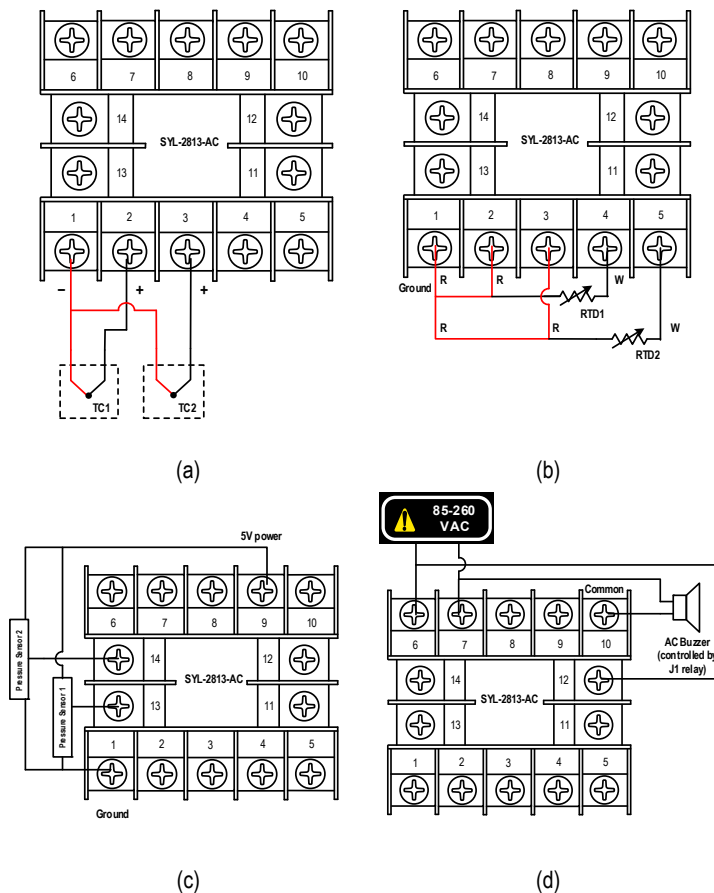

Figure 4. Wiring diagram for (a) thermocouples, (b) RTDs, (c) pressure sensors, and (d) relays.
- 3). Wiring of Thermocouples (TC). For Channel 1, connect the positive side of the TC to T2, the negative side to T1. For Channel 2, connect the positive side of the TC to T3, the negative side to T1. (See Figure 4(a).)
- 4). Wiring of Resistance Temperature Detectors (RTD). In Channel 1, for a three wire RTD, connect the two red wires to T1 and T2, connect white wire to T4; for a two wire RTD, connect the red wire to T2, and connect the white wire to T4, and short T1 and T2. In Channel 2, for a three wire RTD, connect the two red wires to T1 and T3, connect white wire to T5; for a two wire RTD, connect the red wire to T3, and connect the white wire to T5, and short T3 and T1. (See Figure 4(b).)
T9, the signal wire of the sensor to T14, and the ground wire of the sensor to T1. (See Figure 4(c).)
7). Wiring for relay output. J1 and J2 are two normally open relays. T10 is a common pole for both relays. Use T12 and T10 for J1 relay. Use T11 and T10 for J2 relay. (See Figure 4(d).)
To set or view Basic Parameters, press SET key once, the upper window will display "pass" and the lower window will display "0000". Change the number to "0089" in the lower window and press SET again to enter the Parameter Setting Mode. Two parameters from the parameter list will be displayed. The upper window will flash the first parameter, the lower window will steadily display the next parameter on the list (see table 3). Use UP or DOWN key to scroll to the desired parameter (flashing in the upper window) and press SET to view the value. For numerical values, use SHIFT key to go to any digit that needs to be changed and use UP or DOWN key to change the value. For letter values, use UP or DOWN key to select from available values. Then press SET to save and exit to the parameter list. To exit this mode, use UP or DOWN key to scroll to "End" (flashing in the upper display window) and press SET. See Figure 4 for a schematic diagram of how to change Basic Parameters.
The procedure for setting Alarm Parameters is similar to Basic Parameters showed in Figure 4 except the access code is 0001.
The procedure of setting Peak Value Parameters is similar to the Basic Parameters showed in Figure 4 except the access code is 0036.